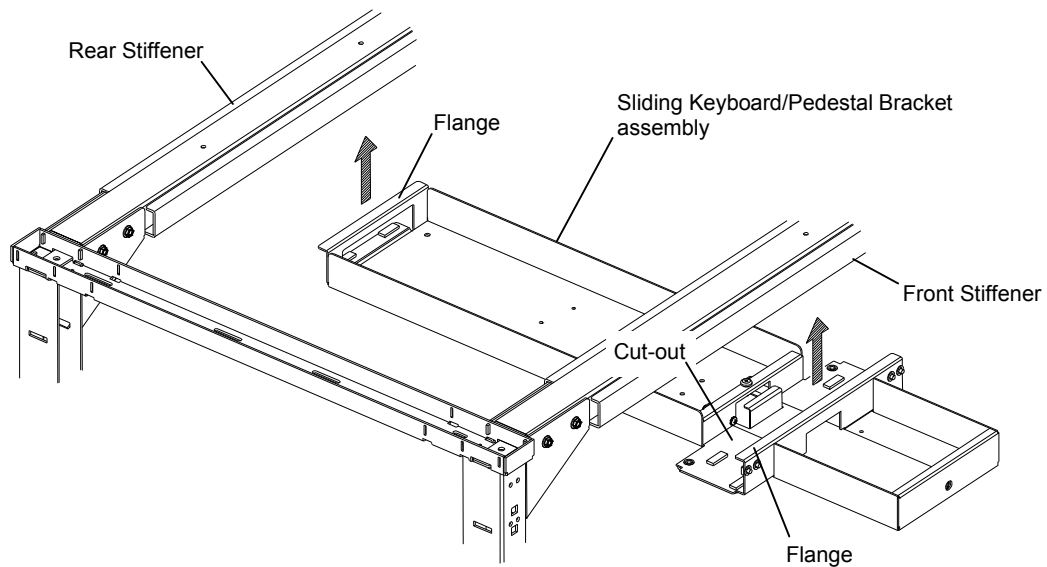

Figure 2.
3. To install the Sliding Keyboard/Pedestal Bracket assembly to the underside of the TechBench™, align the cut-out in the assembly with the front Stiffener and push the assembly up against the underside of the worksurface. See figure 2.